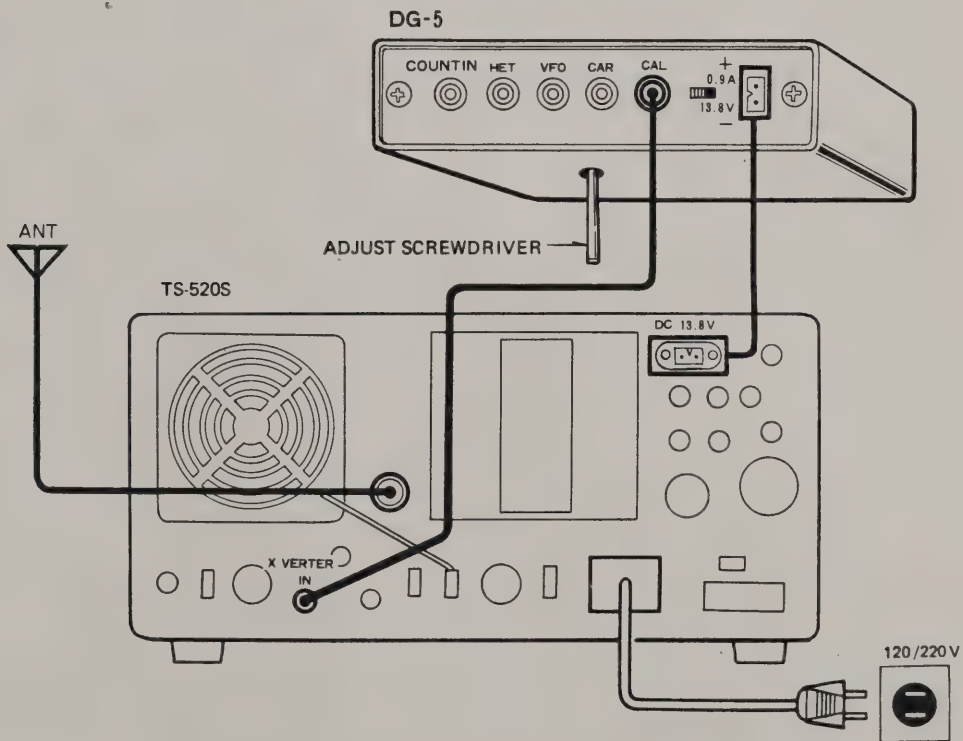

Figure 7. Reference Oscillator Calibration.
2. Connect the supplied signal cable from the DG-5 CAL connector to the TS-520S X VERTER IN connector as shown in Figure 7. The fifteenth harmonic of the DG-5 reference oscillator fundamental, 1 MHz, will superimpose on the 15MHz WWV signal. Then you will hear of an impure, double beat
3. Adjust the trimmer located inside the bottom cover using an adjust screwdriver until the impure beat becomes clear, as shown in Figure 7. For more precise adjustment, the S meter on the TS-520S is helpful. The S meter pointer will vibrate finely on either side of the true calibration point. As the reference oscillator frequency comes close to the calibration point, the pointer deflection becomes large and slow. When it is largest and slowest, set the trimmer.